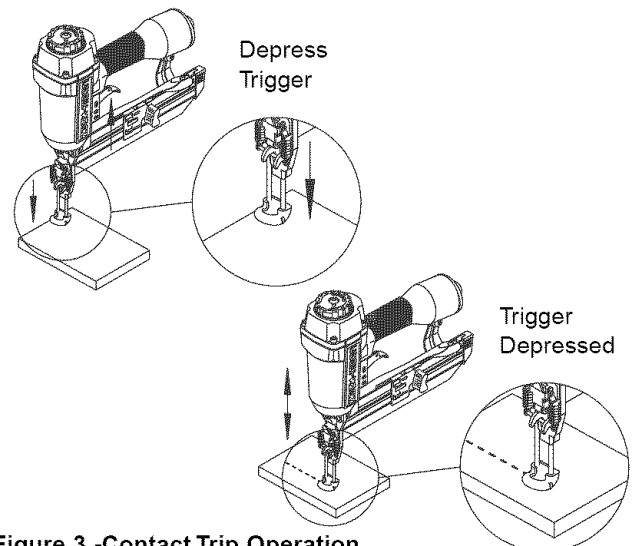

Figure 3 -Contact Trip Operation
Refer to Figures 3 & 5 (pages 3 and 6)
- The air tool is equipped with a contact trip safety mechanism (see Figure 3) that disables tool unless contact trip is pushed against work. Hold body firmly and press contact trip on workpiece where fastener is to be applied. Pull trigger to drive fastener into workpiece.